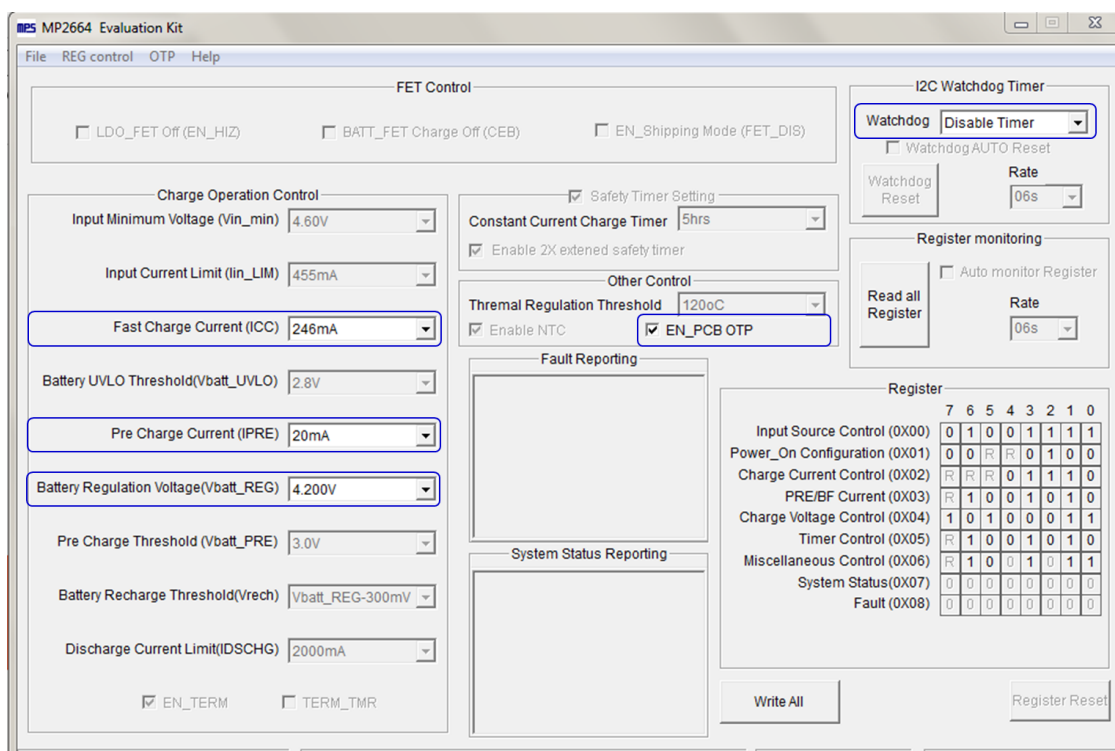

Figure 9: Parameters that can be Adjusted in OTP Mode
4. Enter a new table (see Figure 9). You can change any parameters highlighted.